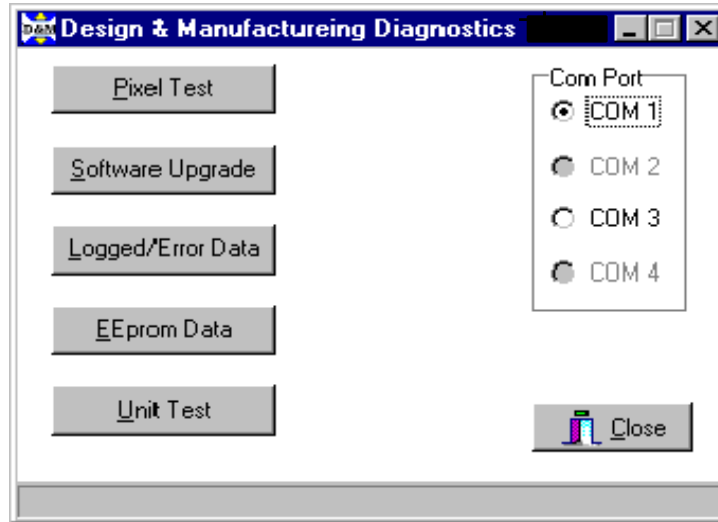

Figure 10
2. Select “Unit Test” (shown in Figure 10). You will get the following screen: